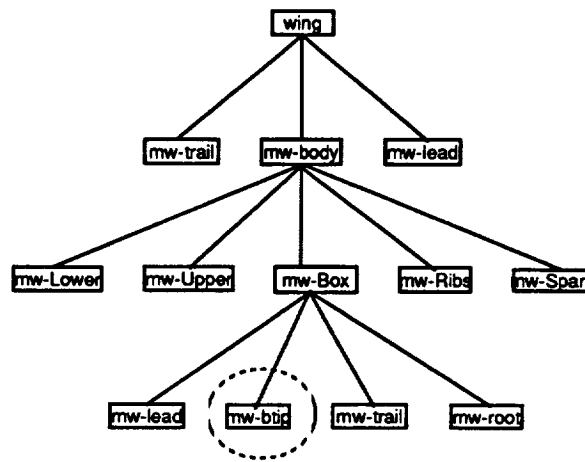

FIGURE C.27. Expanded "wing" node.
- Shift-left-click on *wing* node. Wing expands to the tree that is shown in figure C.27.
- Select *mw-btip* from the tree (circled node in fig. C.27.)